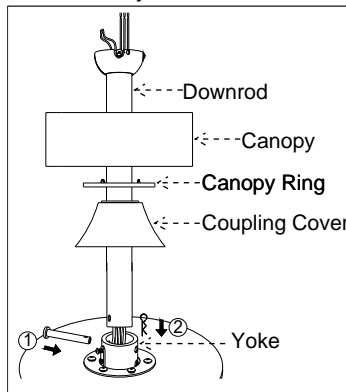

Fig. 4
Step 3. As shown in Fig. 4, assemble the downrod (B) and other components in the same manner, then thread the fan's power cord through the downrod (B) and insert the downrod (B) into the yoke.
Step 4. Align the holes in the downrod (B) and yoke, reinsert the clevis pin & 'R' pin into the downrod (B), and tighten the jam screw.